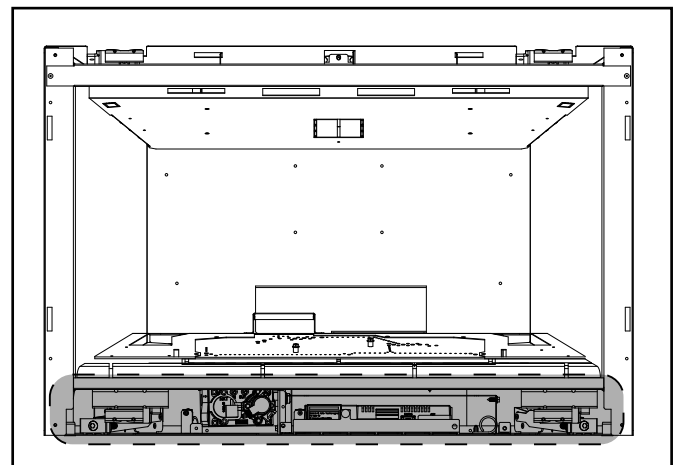

Figure 3.7 Control Cavity
The flame on the PROV-IPI models have a variable burn rate which is controlled by the HI/LO knob on the gas valve. Therefore the flame height is adjustable. The HI/LO knob is shown in Figure 3.7. It is located in the control cavity of the appliance. The HI/LO knob may be adjusted as desired by turning counterclockwise to the LO position and by turning clockwise to the HIGH position.
1. Access the control cavity of the appliance. See Figure 3.7 for location. The decorative front, fixed glass assembly, and glass seal plate will need to be removed.